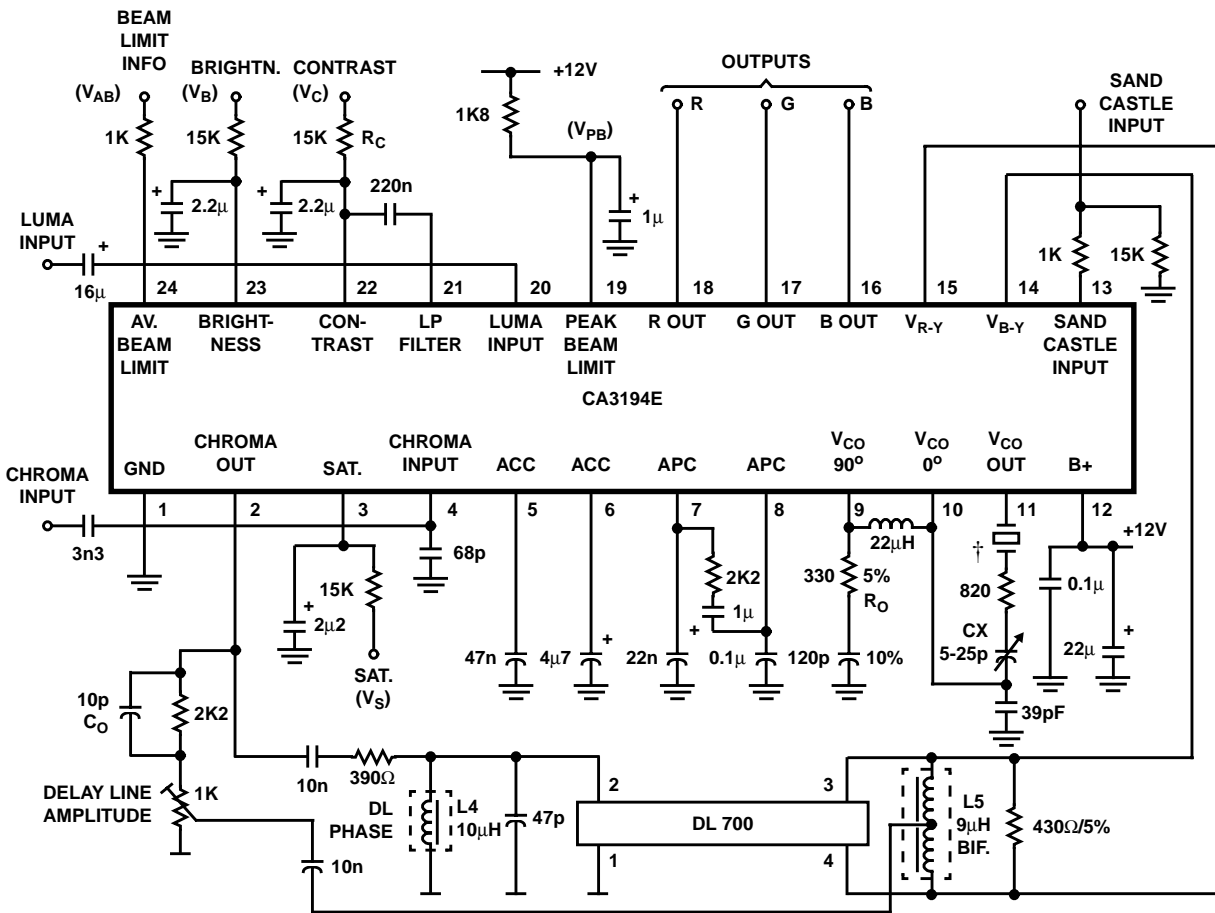

FIGURE 19. TEST CIRCUIT
**Electrical Specifications**  $T_A = +25^\circ\text{C}$ ,  $V_{CC} = 12\text{V}$ ,  $V_S = 2.85\text{V}$ ,  $V_C = 2.85\text{V}$ ,  $V_{AB} = V_{PB} = V_{CC}$ ,  $V_B$  adjusted for  $V_{18} = 6.3\text{V}$ ,  $C_X$  adjusted for  $F_{OSC} = 4.43361875\text{MHz}$ , Sandcastle:  $V_{BG} = 8.0\text{V}$ ,  $V_{BLANK} = 3.5\text{V}$  - Burst Gate centered on Burst. These conditions exist except as otherwise noted. See Figure 19 for test circuit
**Electrical Specifications**  $T_A = +25^\circ\text{C}$ ,  $V_{CC} = 12\text{V}$ ,  $V_S = 2.85\text{V}$ ,  $V_C = 2.85\text{V}$ ,  $V_{AB} = V_{PB} = V_{CC}$ ,  $V_B$  adjusted for  $V_{18} = 6.3\text{V}$ ,  $C_X$  adjusted for  $F_{OSC} = 4.43361875\text{MHz}$ , Sandcastle:  $V_{BG} = 8.0\text{V}$ ,  $V_{BLANK} = 3.5\text{V}$  - Burst Gate centered on Burst. These conditions exist except as otherwise noted. See Figure 19 for test circuit **(Continued)**